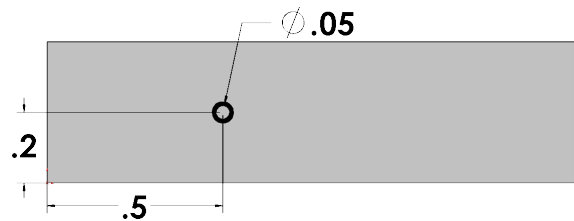

Fig. 6
Step 4. Draw circle for the screw hole, **Fig. 6**.
Step 5. Click **Smart Dimension**  (S) on the Sketch toolbar.
Step 6. Set dimensions as shown in **Fig. 6**.